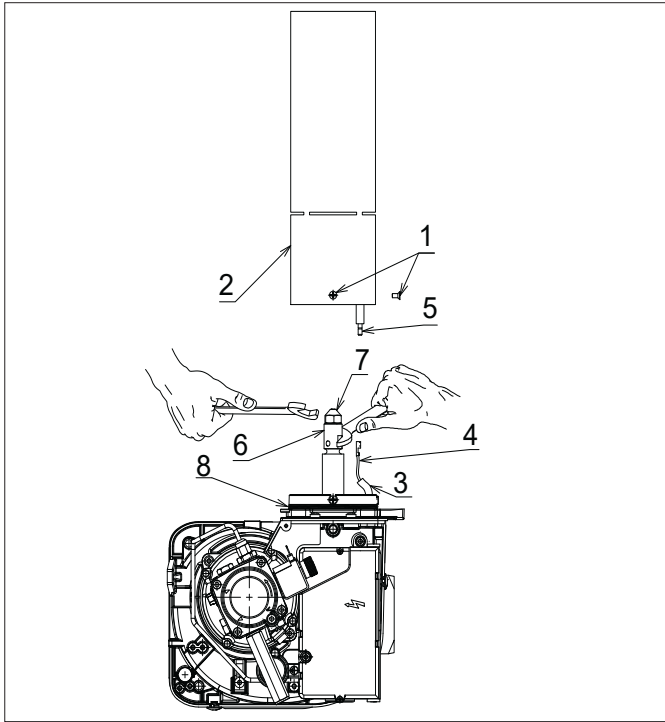

Figure 10-3: Burner head and nozzle holder
1. Remove the burner head. Refer to Figure 10-3. Loosen the two fixing screws (1) and carefully separate the head (2) from burner.
2. Refer to Figure 10-3. Disconnect both ignition leads (4) from the electrodes (5).
6. Reconnect the ignition leads to the electrodes, as follows. Refer to Figure 10-3.
- First, ensure the insulative sleeve (3) is slid down the ignition lead and is not covering the metal connector.
- Firmly push the metal connector (4) on to the electrode (5).
- Carefully slide the insulative sleeve (3) to fully cover the metal connector (4) on the ignition lead.
7. Re-fit the burner head. Refer to Figure 10-3.
- Locate the head fixing screws (1) in the countersunk slots in the burner collar.
- Tighten the two screws (1) to secure the head (2) in position on the burner.